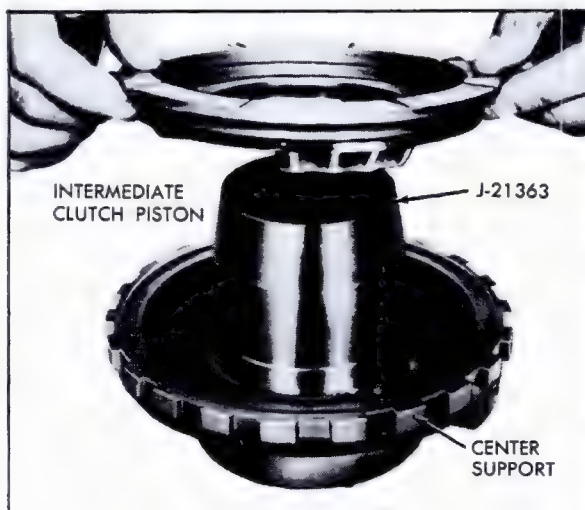

Fig. 7-90 Installing Intermediate Clutch Piston
2. Place Intermediate Clutch Inner Seal Protector, J-21363, over center support hub, Fig. 7-90, and install intermediate clutch piston, making certain it fully seats in center support. Remove J-21363.